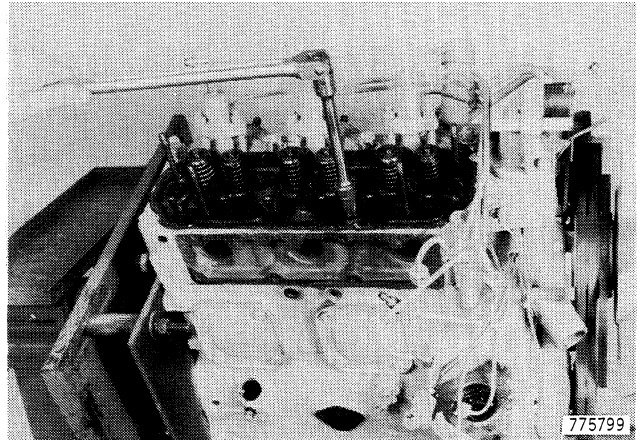

Figure 53
28. Remove the cap screws and nuts from the cylinder head, Figure 53.